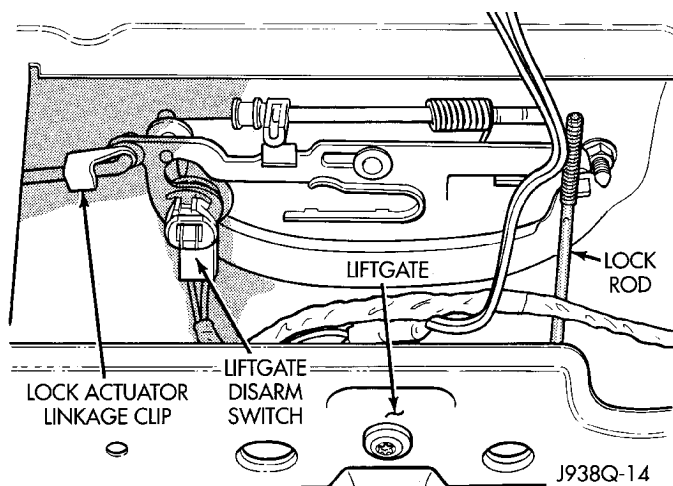

Fig. 12 Liftgate Lock Cylinder Switch Remove/Install
(5) Remove the lower liftgate trim panel from the vehicle.
(6) Pry the liftgate lock cylinder switch off of the back of the lock cylinder (Fig. 12).
(7) Unplug the lock cylinder switch wire harness connector and remove the switch from inside the liftgate.
(8) Reverse the removal procedures to install. Tighten the mounting screws to 2.2 N·m (20 in. lbs.).